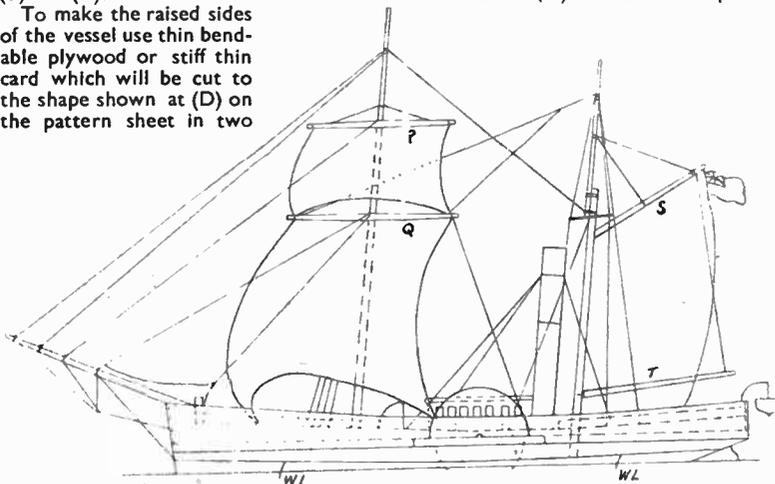
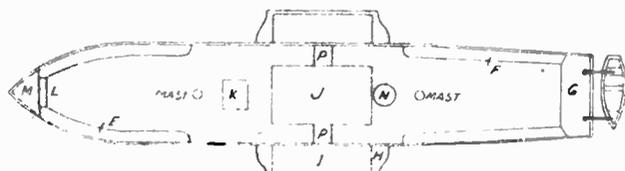
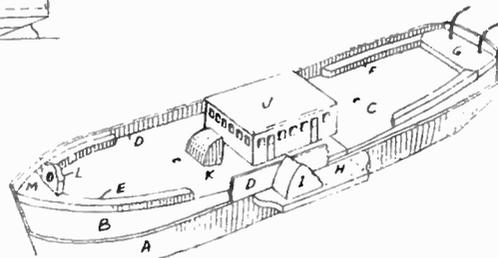

Fig. 2—Side view, with dotted lines of adjoining parts
Fig. 1—Plan of deck and hull
Fig. 3—Constructional details of hull and paddle box
type, and measures—without its base— $13\frac{1}{2}$ ins. long overall and its height is 8 ins. The plan at Fig. 1 and side view, Fig. 2, will be found very useful when assembling the various parts of the model. The full-size patterns, too, of many of the important parts, are given on cover iii.
sections. The plan of the ship, Fig. 2, and the view showing construction, Fig. 3, show how the bent sides appear when glued to the raised blocks at bow and stern. A large portion of the foremost side is shown cut away for sake of clarity.
The engine room and cabin (J) can be cut as a solid block from $\frac{1}{2}$ in. wood and measures $1\frac{1}{2}$ ins. by $1\frac{1}{2}$ ins., with windows and doors painted on. The shaped companion head (K) is a simple block, as given in two views on the pattern sheet. The upright (L) also on the sheet, carries the bowsprit and is of $\frac{1}{2}$ in. wood. Just in front of this piece (L) is a small angular piece (M) glued between the pieces (E) on the sides. Fig. 3 shows the position of all these parts.